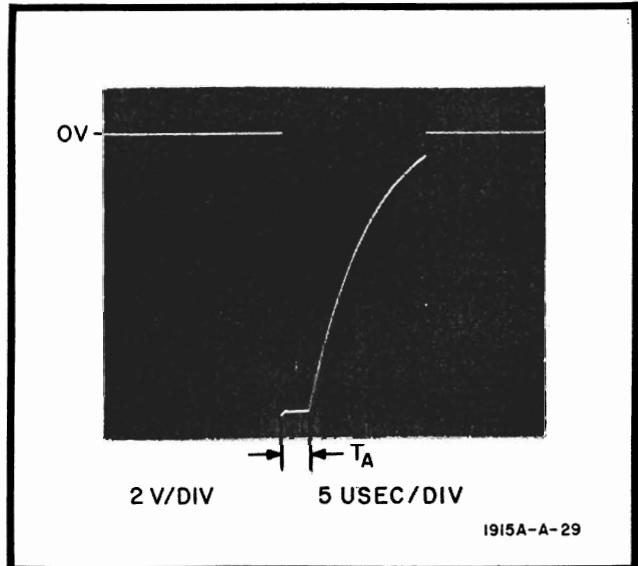

Figure 5-15. Negative Overload Test Pulse
- q. Using monitor oscilloscope observe Model 1915A output. Output should be similar to that shown in Figure 5-15. T_A should be less than 5 usec.